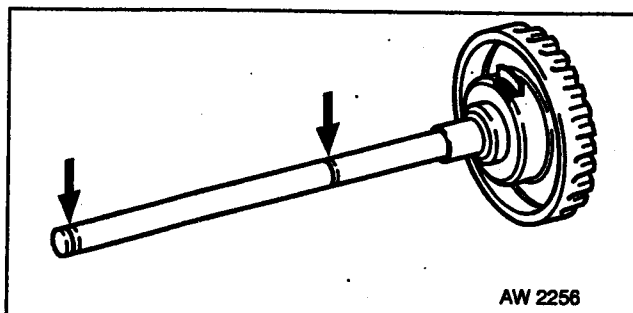

Fig 3.3 Engine Oil Dipstick
- h. Insert dipstick, remove and check that the level is between the lower and upper marks (Fig 3.3 refers).